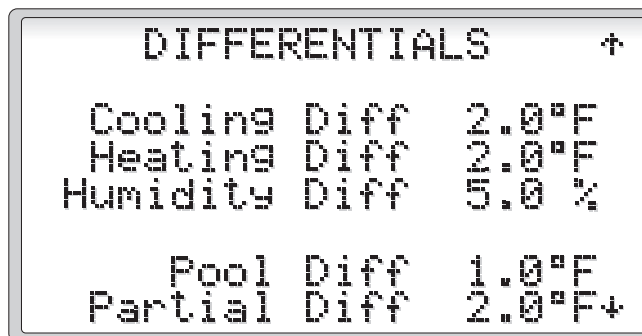

Figure 44
2.3.3.5.1 Tuning – Differentials (Figure 44)
Pressing the **DOWN** key will now display the DIFFERENTIALS screen (Figure 44). This screen shows the Cooling, Heating and Humidity Switch Differentials. This differential is the range between the making and breaking of the switch. The range of the Cooling and Heating Differential is 0.0°F to 9.9°F. The range of the Humidity Differential is 0.0% to 9.9%.